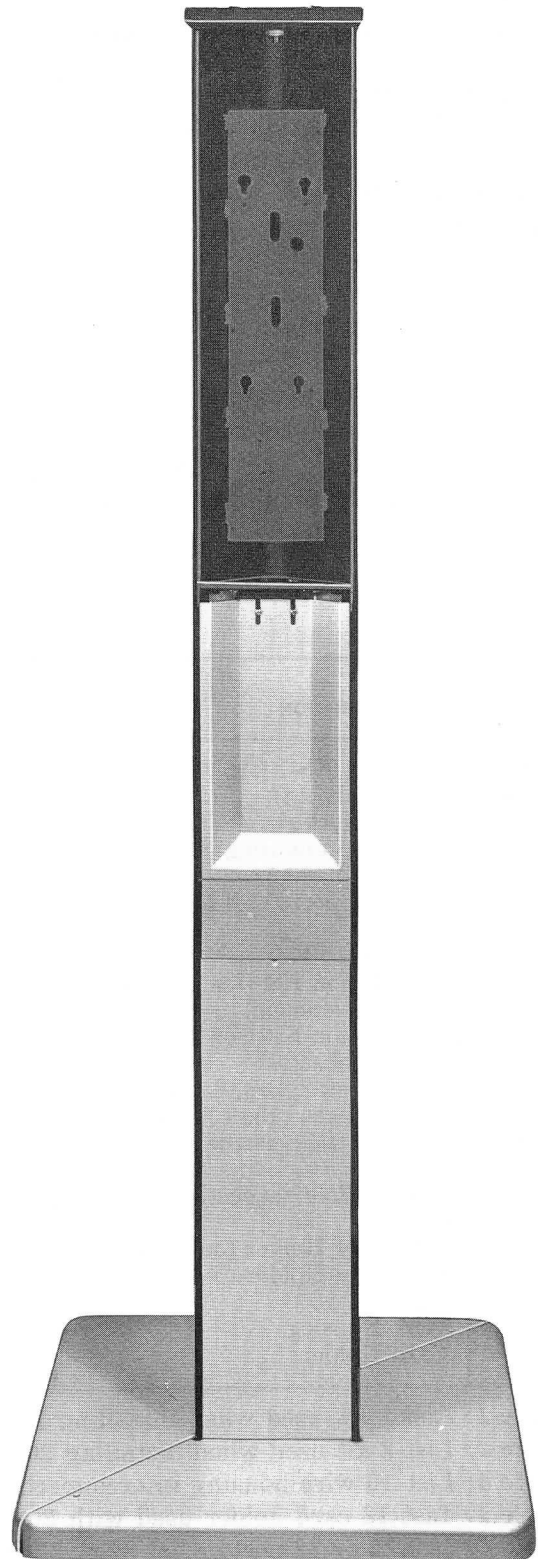

Fig. 8 — Post Mounted on Pedestal
2.11 A black angular steel post, with an aluminum cover on the flat front face (Fig. 8), is available for drive-up or walk-up service. This
post may be mounted on a pedestal as shown in Fig. 8 or embedded in concrete.